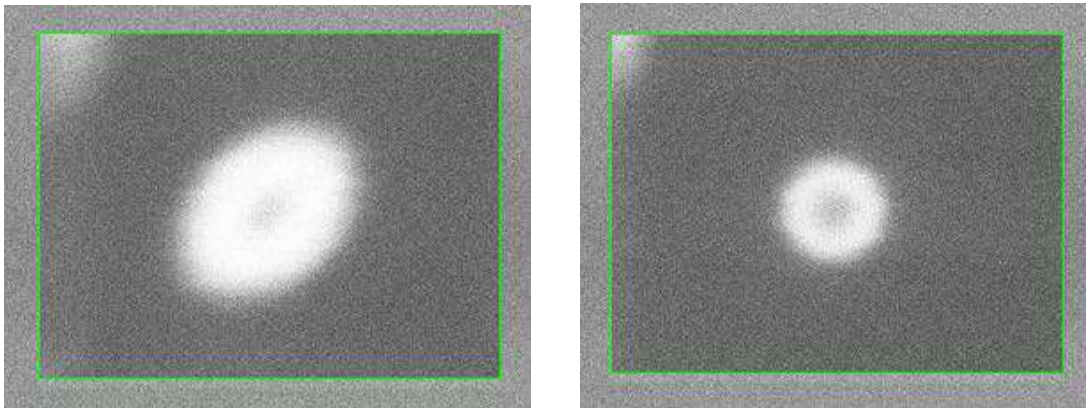

Figure 21 (left) Contamination dot with astigmatism, and (right) optimized 30 nm diameter contamination dot
- If the spot is not circular (see Fig. 21), perform column/focus corrections and iterate.